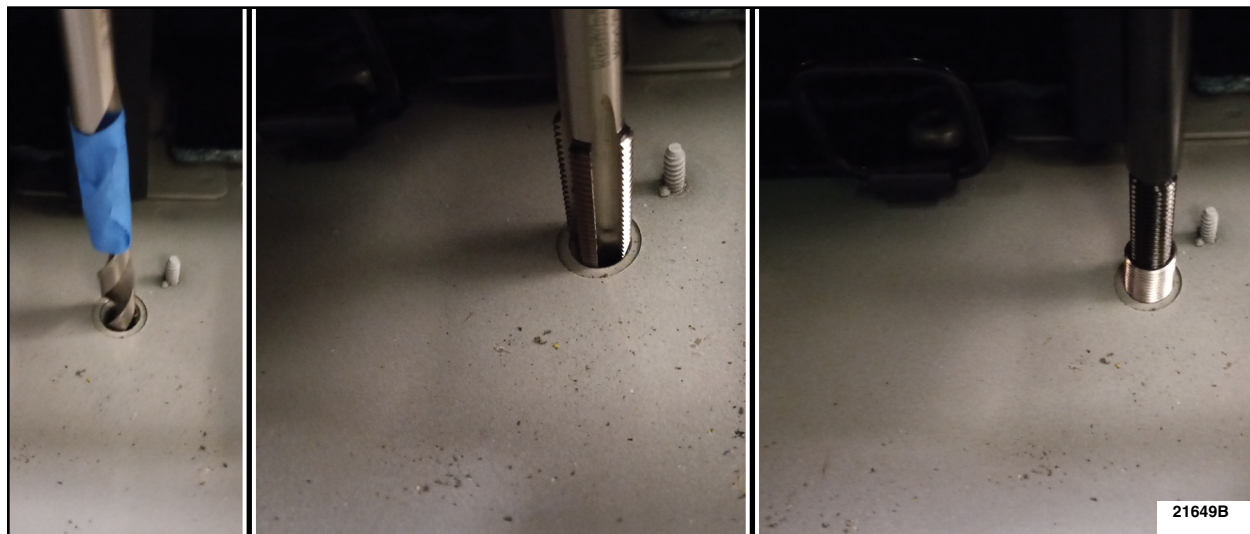

FIGURE 4
3. Using a M12 x 1.75mm thread repair insert kit, drill out – or repair the anchor bolt hole. Use the instructions contained with the kit to install the thread repair kit. See Figure 4.